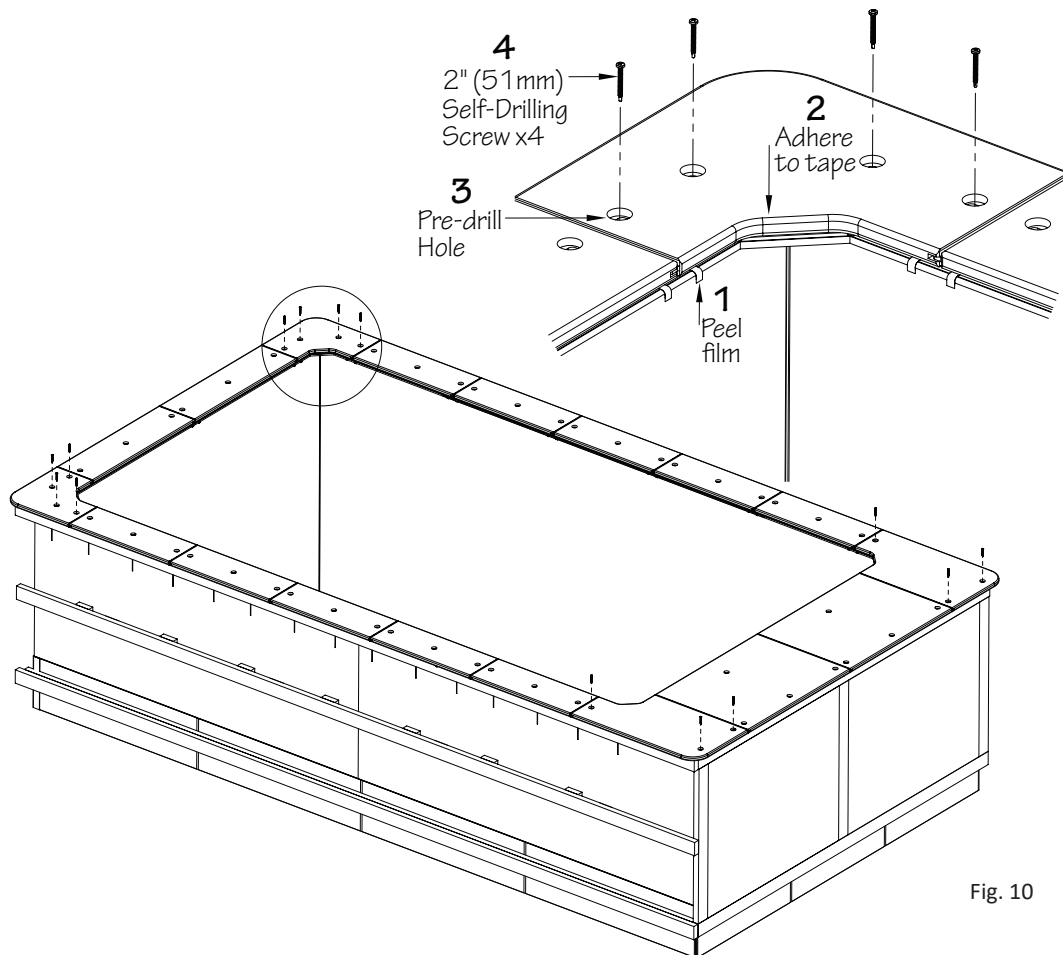

Fig. 10
9. When satisfied with the board alignment, remove the film from the tape under the corner by peeling the tabs. Apply pressure to the inside of the corner to adhere it to the tape. This will prevent the corner from being knocked out of alignment when pre-drilling and fastening it to the top flange. Use the provided drill bit to pre-drill holes into the top flange using the mounting holes in the corner as a template. **Loosely attach** the corner with the provided self-drilling screws using hand screwdriver. **Repeat for all corners** (Fig. 10).